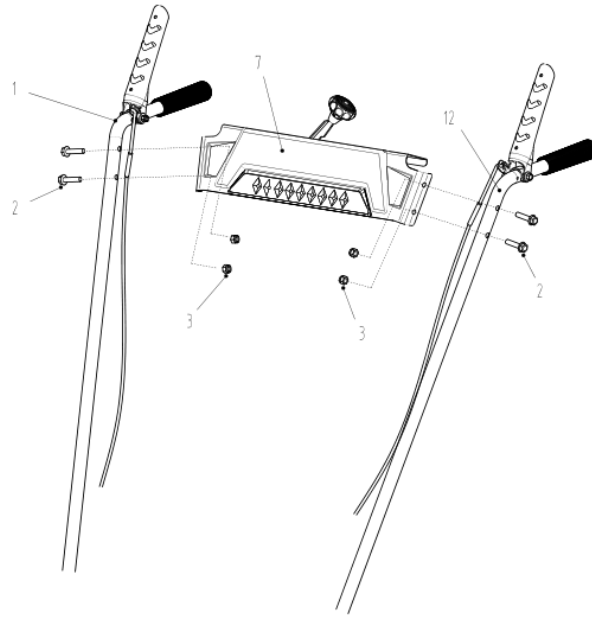

Fig.5
3.4 Installation of panel (7 #): Use M8X35 flange outer hexagonal bolts (2 #) and M8 lock nuts to install the holes of the handrails (1 #) and (12 #) on both sides, and then lock them tightly (see Figure 5);